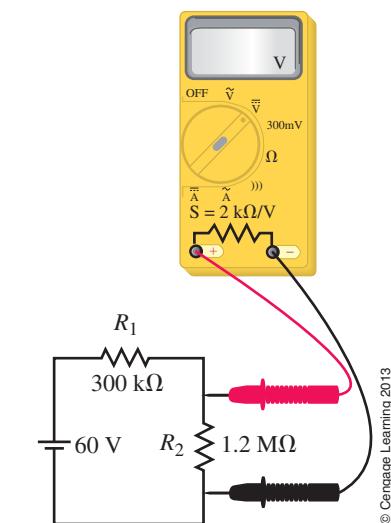

FIGURE 7-75
36. The voltmeter of Figure 7-75 has a sensitivity $S = 2 \text{ k}\Omega/\text{V}$.
41. Use Multisim to solve for the meter reading in the circuit of Figure 7-75 if the meter is used on its 50-V range.